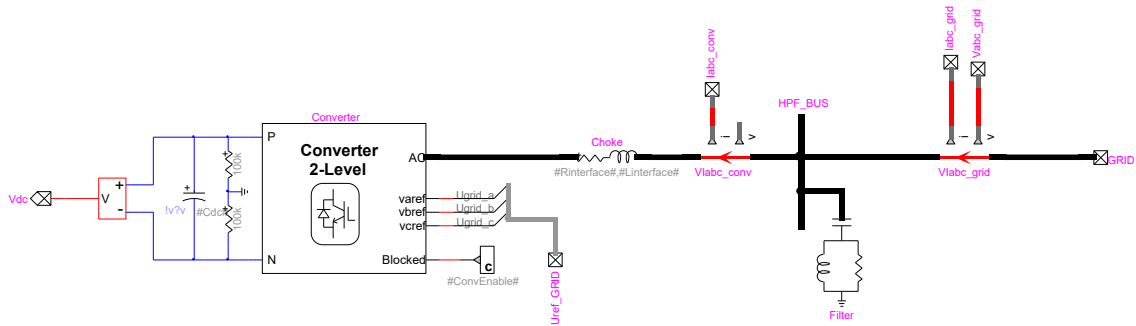

Figure 1: STATCOM 2-level converter
- **Choke inductance:** Choke inductance. The choke is connected between the converter and the filter, on the STATCOM side of the step-up transformer (see Figure 1).
- **Choke resistance:** Choke resistance. The choke is connected between the converter and the filter, on the STATCOM side of the step-up transformer (see Figure 1).